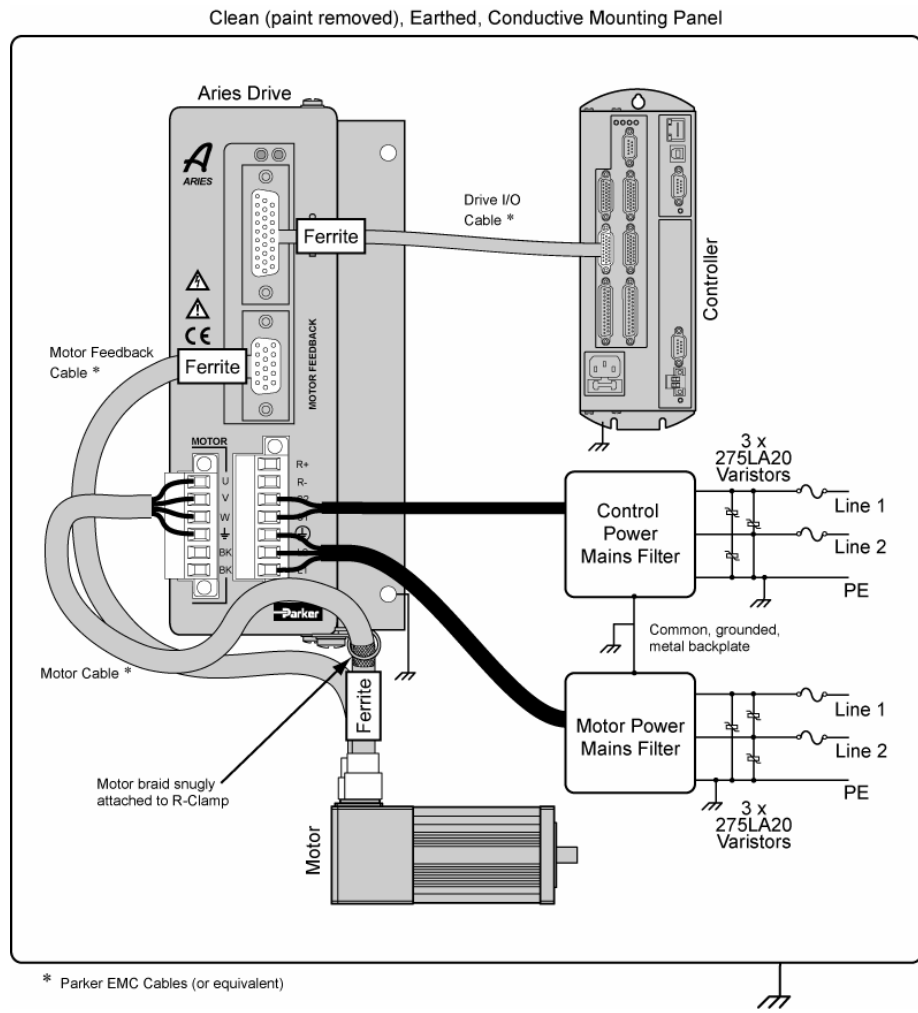
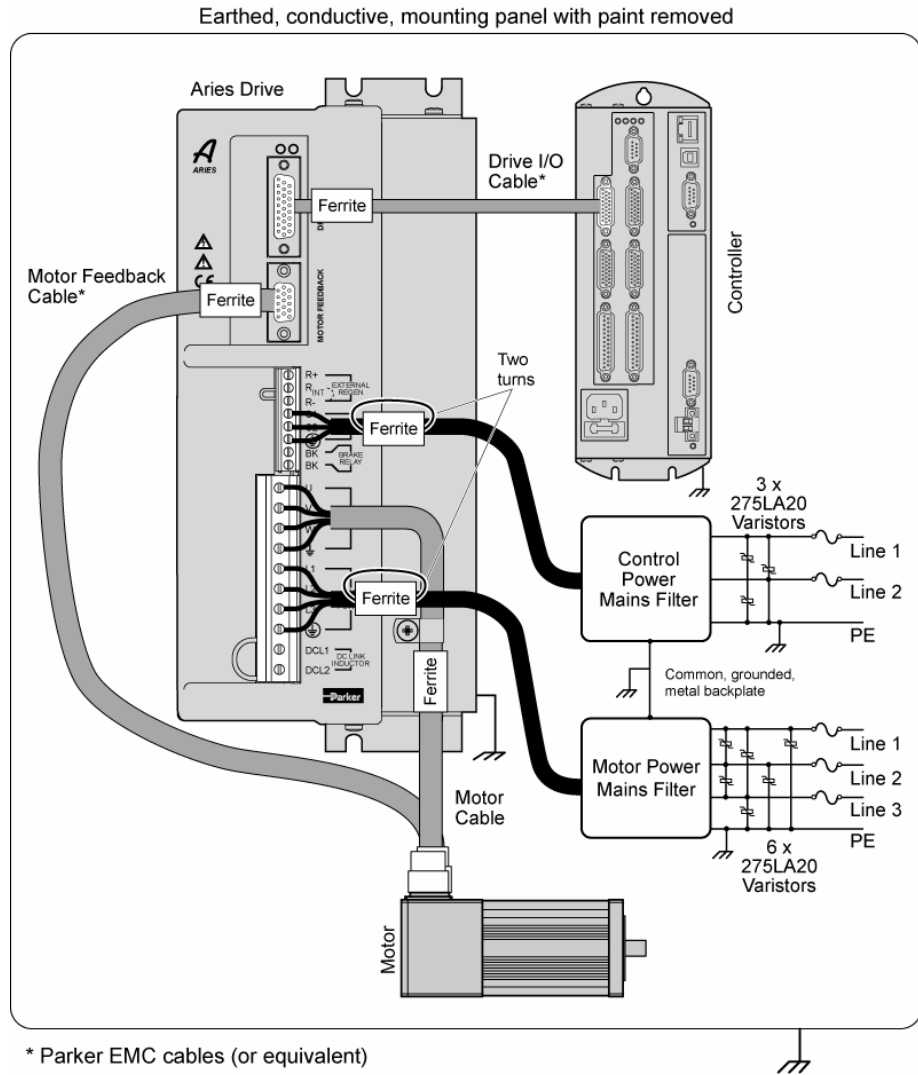

Figure 53 Typical LVD/EMC Installation, AR-02xx to AR-13xx
Figure 54 Typical LVD/EMC Installation, AR-20xE & AR-30xE
Control Power – You must install varistors or other voltage surge limiting devices in order to meet the requirements of EN61000-4-5. Level 3 Voltage Surge (1000V line-to-line, 2000V line-to-earth) protection can be achieved by placing a Littelfuse V275LA20C, or an equivalent varistors from line-to-line and from line-to-earth before the mains filter as shown in Figure 54 Typical LVD/EMC Installation, AR-20xE & AR-30xE on page 182.
Mains Motor Power – The three-phase AC power Aries drives (models AR-20xE and AR-30xE) are designed to meet Level 3 Voltage Surge (1000V line-to-line, 2000V line-to-earth) without the need for external voltage surge limiting devices. If a higher level of mains surge immunity is required, external voltage surge limiting devices, such as varistors, can be installed before the mains filter. Figure 54 Typical LVD/EMC Installation, AR-20xE & AR-30xE on page 182 illustrates this installation.
- Route cables as shown in Figure 53 Typical LVD/EMC Installation, AR-02xx to AR-13xx on page 181 and Figure 54 Typical LVD/EMC Installation, AR-20xE & AR-30xE on page 182.